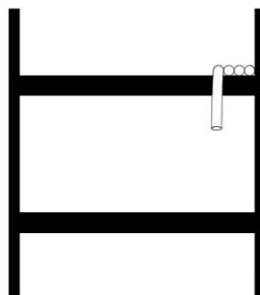

Fig 1
1. Winch with plain drum (Fig 1)